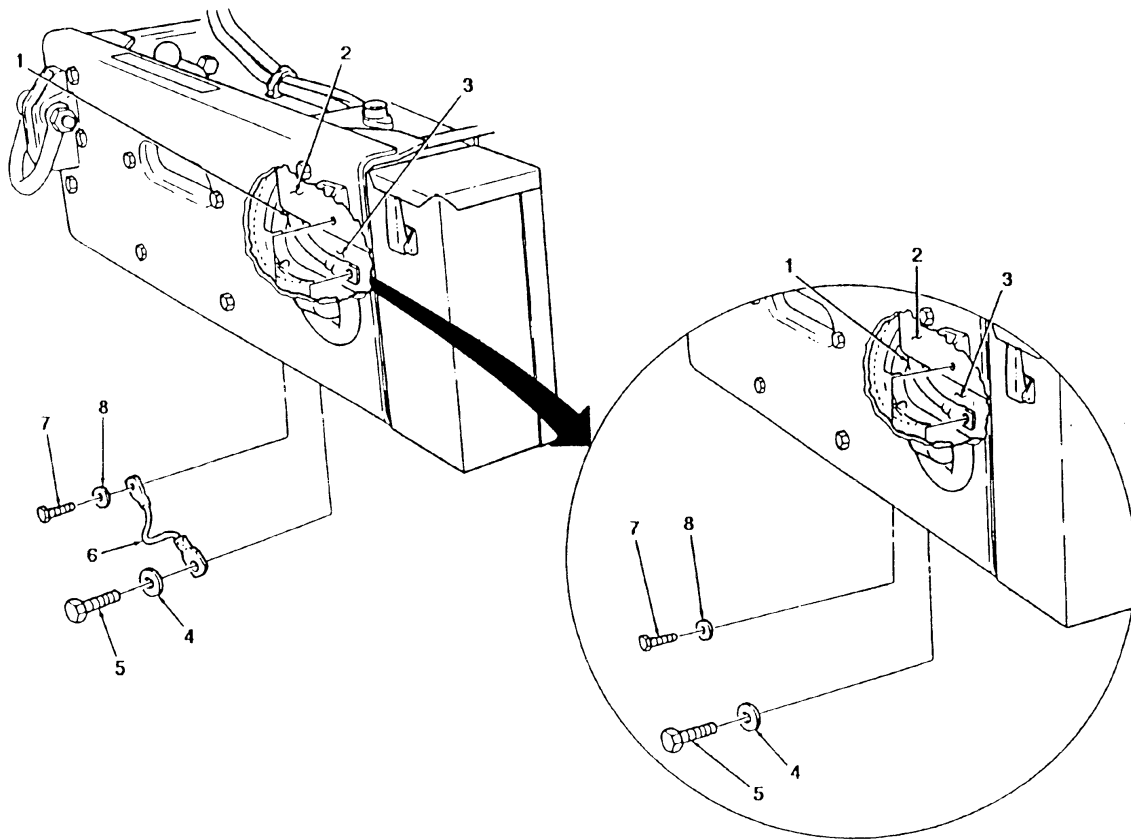

FIGURE 3-8
3. Install ground cable (1) and ground wire (6) to winch motor (3) using existing screw (5) and washer (4). (see figure 3-8)
4. Install ground wire (6) to solenoid cover (2) using existing screw (7) and washer (8).